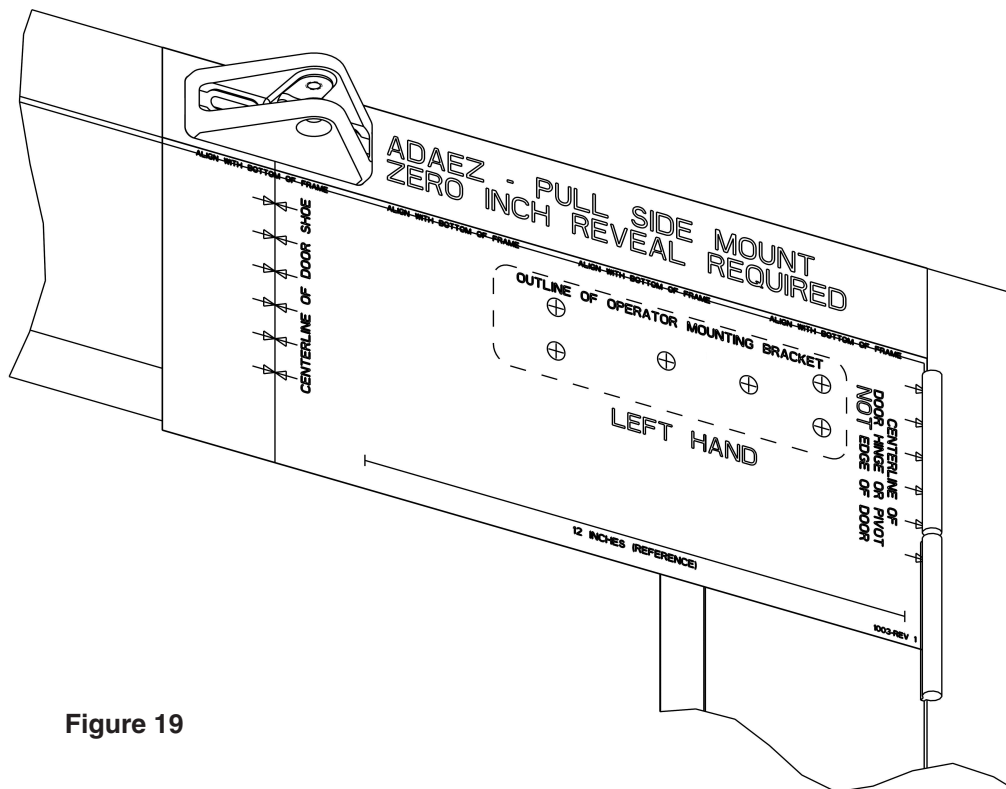

Figure 19
1. If the door frame is steel or aluminum and rivnuts must be installed, refer to Figure 19 and PERFORM the following: